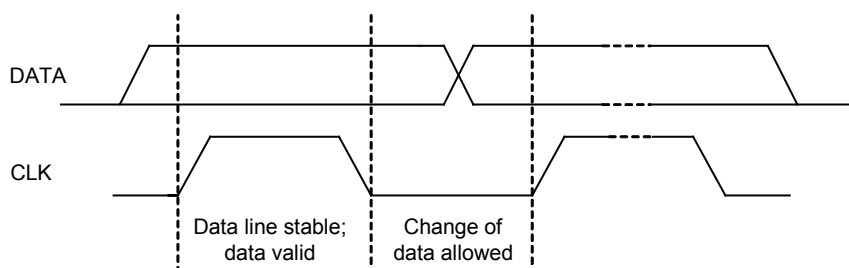
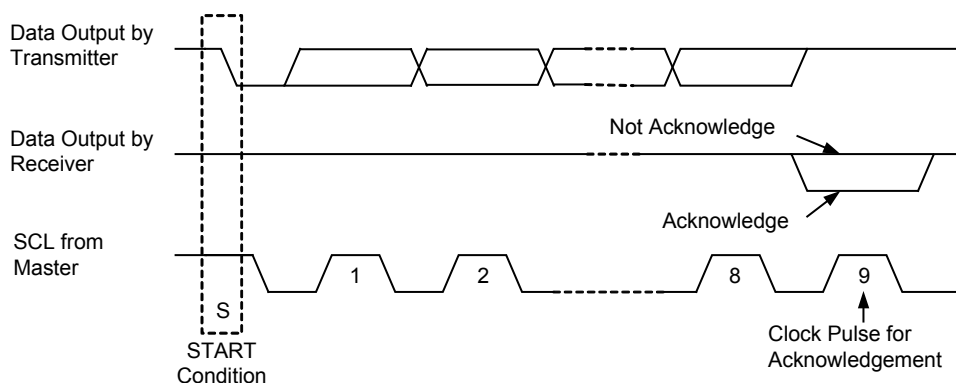

Figure 7. Bit Transfer on the Serial Interface
Figure 8. Acknowledge on the I²C Bus
The master then generates the SCL pulses, and transmits the 7-bit address and the read/write direction bit R/(W) on the SDA line. During all transmissions, the master ensures that the data is valid. A valid data condition requires the SDA line to be stable during the entire high period of the clock pulse (see Figure 7). All devices recognize the address sent by the master and compare it to their internal fixed addresses. Only the slave device with a matching address generates an Acknowledgment, ACK, (see Figure 8) by pulling the SDA line low during the entire high period of the SCL cycle. Upon detecting this Acknowledgment, the master knows that communication link with a slave has been established.